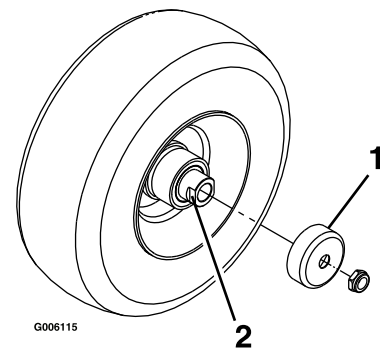

Figure 37
4. Remove the seal guards from the wheel hub (Figure 37).